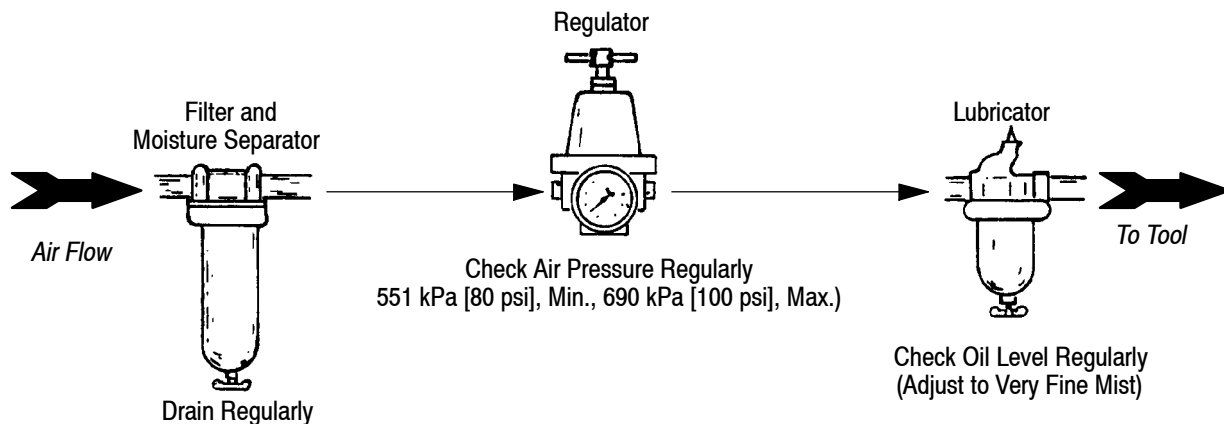

Figure 10
3. Install air line filter, air pressure regulator, and lubricator (supplied by the customer) between the air supply and hose, as shown in Figure 10. The assembly must be as close as possible to the machine. Fill the air line lubricator with a good grade air line lubricant (as recommended by the filter manufacturer). When machine is not in use, the air supply should be turned "OFF."